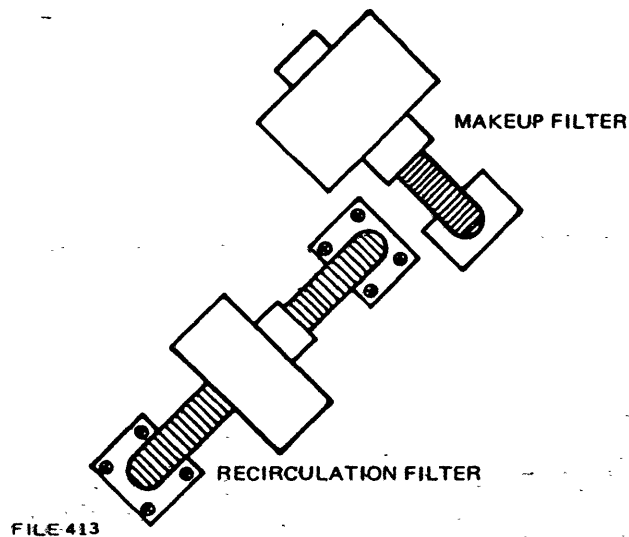

Figure 20-14. Makeup Filter Holder
- c. Pull the makeup filter from its holder (Figure 20-14).